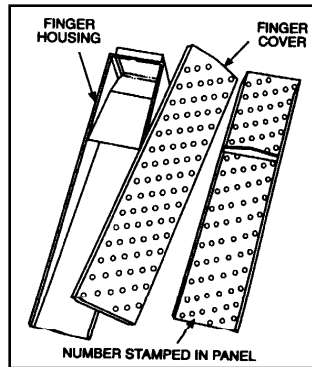

Figure 3
4. Assemble fingers as shown in **Figures 3 and 4.**